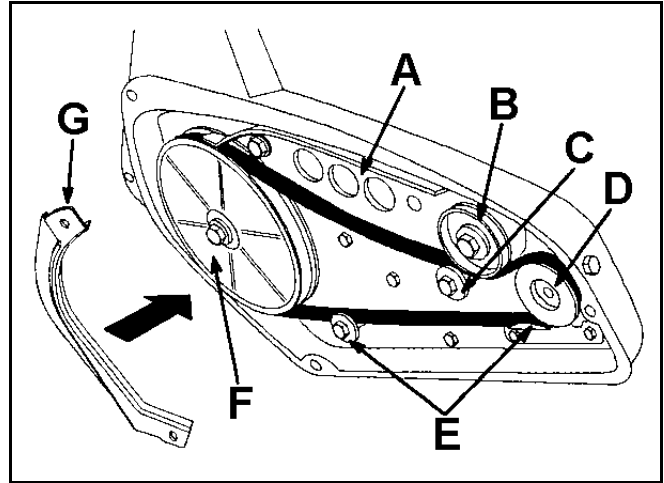

Figure 92
- Remove the old drive belt from the engine pulley and the idler pulley (Figure 92).
- Push down on the idler pulley and remove the drive belt from the rotor pulley (Figure 92).
- Push down on the idler pulley and route the new drive belt around the rotor pulley (Figure 92).
- Release the idler pulley and route the drive belt over the two belt guides, around the engine pulley, and between the idler pulley and the roller (Figure 92).
Important The drive belt must be on top of the roller and the two belt guides as shown in Figure 92.